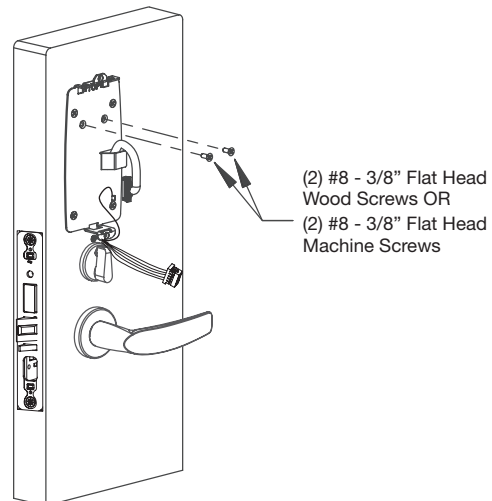

Fig. 8C
5. Attach two (2) #8 x 3/8" flat head wood screws for wood doors or (2) #8-32 x 3/8" flat head machine screws for metal doors (Fig. 8C).